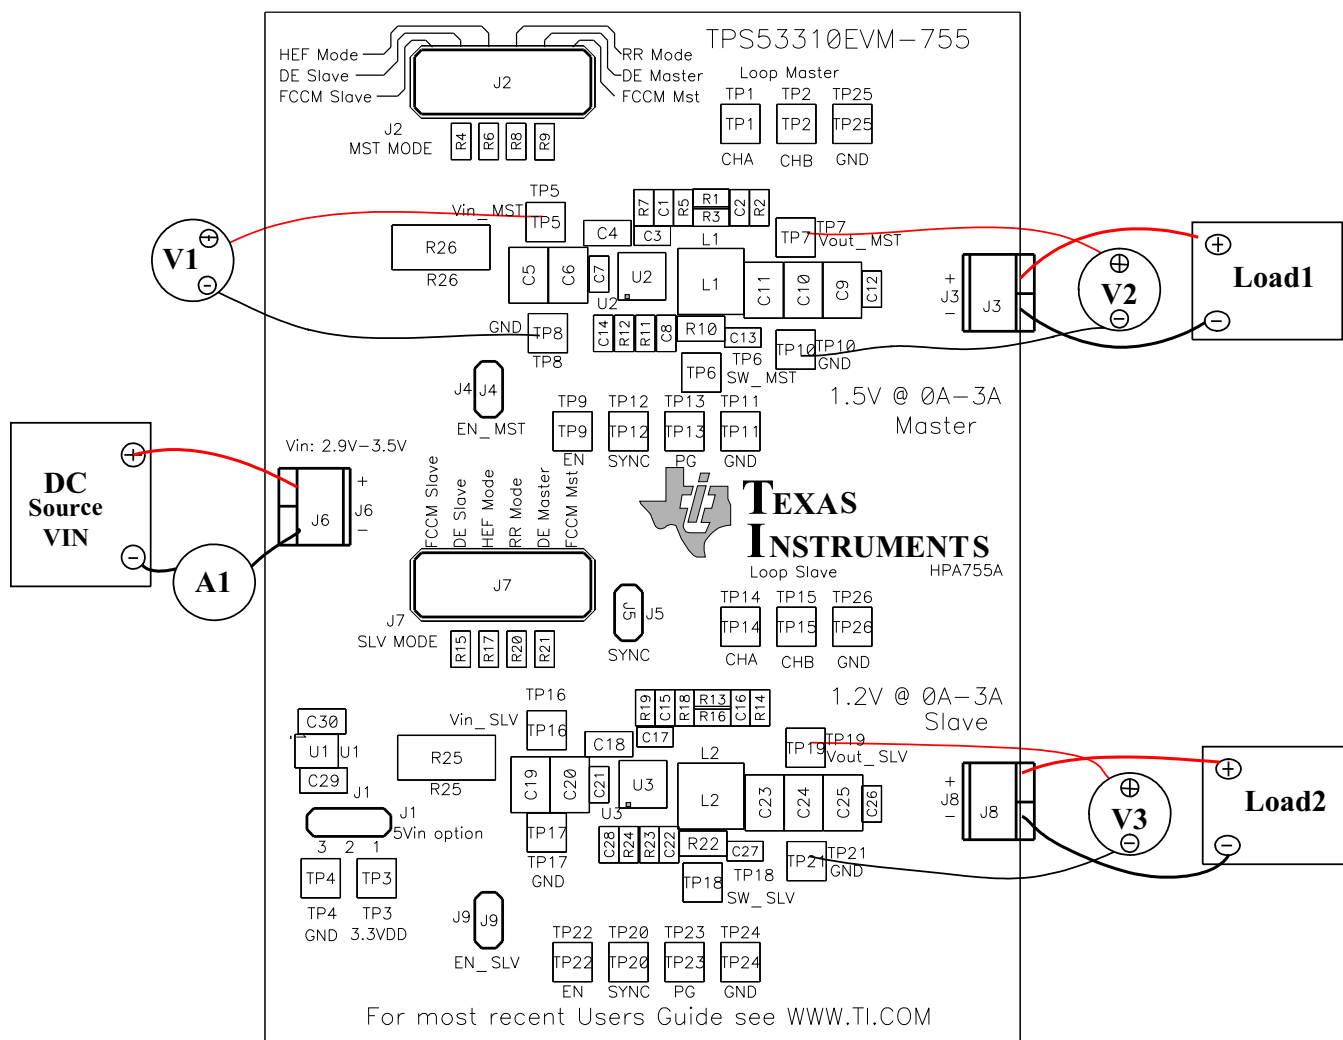

Figure 3. TPS53310EVM-755 Recommended Test Setup
The input voltage source VIN must be a 0-V to 6-V variable dc source capable of supplying 3 Adc. Connect Vin to J6 as shown in Figure 3.
Figure 3 is the recommended test setup to evaluate the TPS53310EVM-755. When working at an ESD workstation, make sure that any wrist straps, bootstraps, or mats are connected referencing the user to earth ground before handling the EVM.
1. Prior to connecting the dc input source VIN, it is advisable to limit the source current from VIN to 5 A maximum. Ensure that VIN is set initially to 0 V and connected as shown in Figure 3.
1. Set up the EVM as described in Section 6.1 and Figure 3. Measure 1.5-V bode plot.